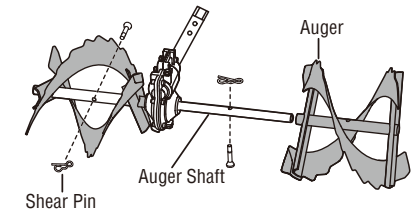

Fig.17B
3. Remove the left and right shear pins and separate the augers from the auger shaft (Fig.17B).